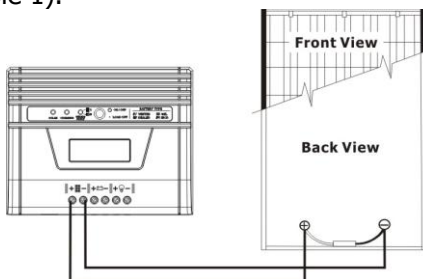

Fig. 7
- 1) Single solar module connection (Refer to Fig. 7):** When using a single solar module, its voltage must be equal to the Nominal DC Voltage of the unit (see below Table 1).